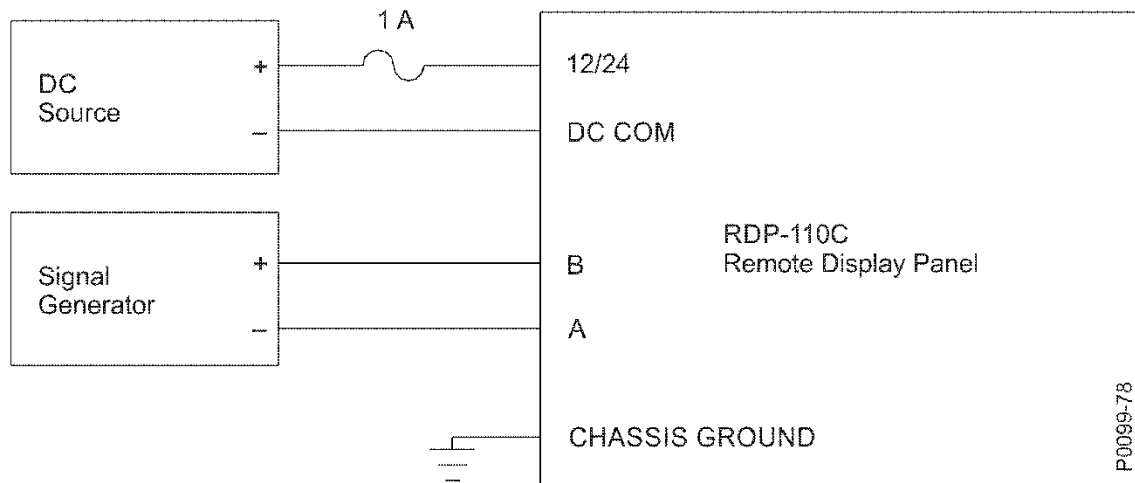

Figure 12. RDP-110C Test Setup
Equipment needed for testing RDP-110C operation is listed below. Connections for the test are illustrated in Figure 12.
1. Connect the RDP-110C test setup as shown in Figure 12.